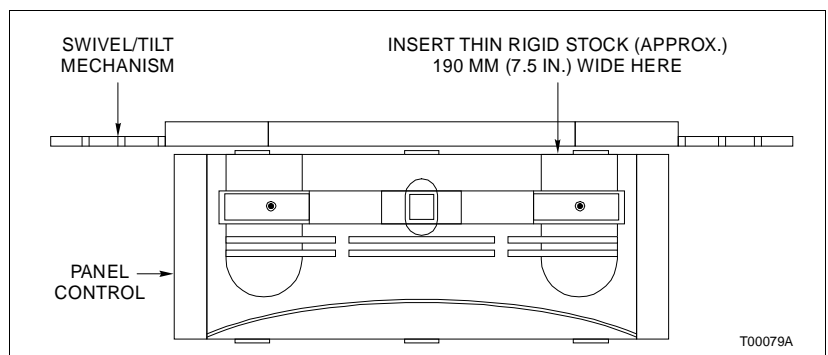

Figure PR67-1. Panel Control Replacement
1. Insert the thin rigid piece of stock into the space above the panel control (Fig. PR67-1).